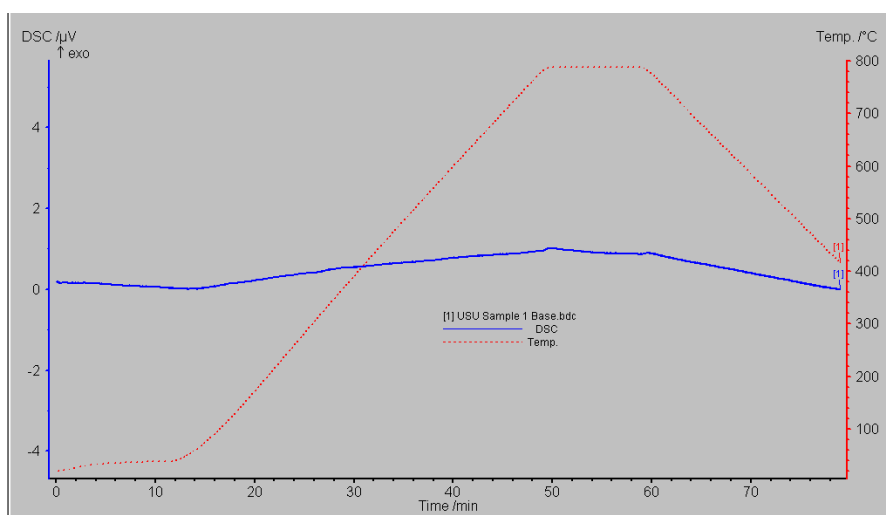

Figure 2. A typical “Baseline” curve.
As described previously, all DSC tests are performed as “triples.” For each test sample, three tests must be performed. The first test is a “Baseline.” The “Baseline” test records system characteristics and (assuming the baseline is relatively consistent from test to test) allows removal of the system bias from experimental data. “Baseline” tests must be run before any samples can be tested. The “Baseline” should be compared to other recent “Baselines” to make sure the system is running consistently. If the “Baselines” begin to drift (deviating by more than 0.2 microvolts from a previous test or exhibiting more than 2.5 microvolts in signal variance during a test), the sample holder position should be adjusted. While adjusting the sample holder position, several “Baseline” tests should be performed to demonstrate consistency of the new sample holder position. Figure 2 displays a typical “Baseline” curve with temperature displayed as a function of time.
Step 3: Turn on the furnace power source, shown in Figure 2, by turning the red switch to the “On” position.
Steps 4 and 5: Activate the DSC and TASC, shown in Figure 2, by switching the toggle switches on the back of each device to the “On” position.
Step 6: Turn on the CPU, shown in Figure 2, by pressing the button on the front of the CPU.